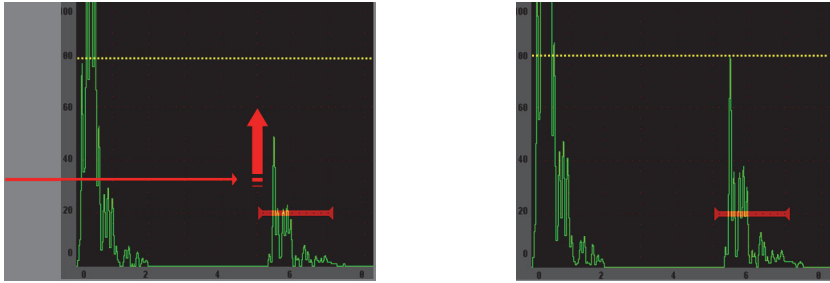

Figure 2-8 The AutoXX% feature
- Pressing **[2ND F]**, **(AUTO XX%)** activates the AutoXX% feature, which automatically adjusts the gain in order to set the gated echo amplitude to XX% of full screen height (the default XX value is 80 %). (See Figure 2-8 on page 41.)